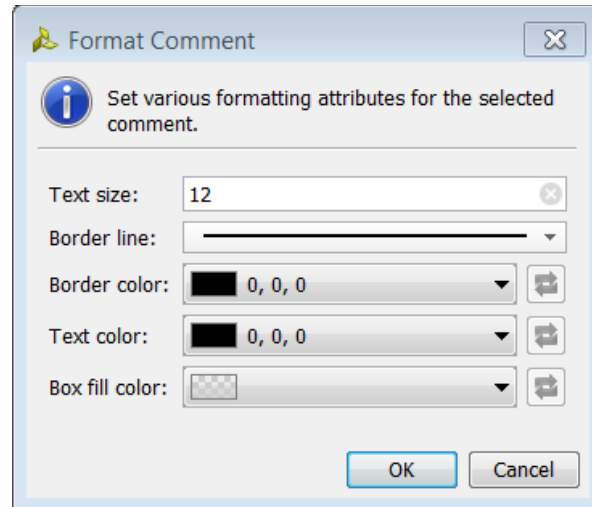

Figure 15: Format Comment Dialog Box
5. The **Format Comment** dialog box opens (FIGURE 15).